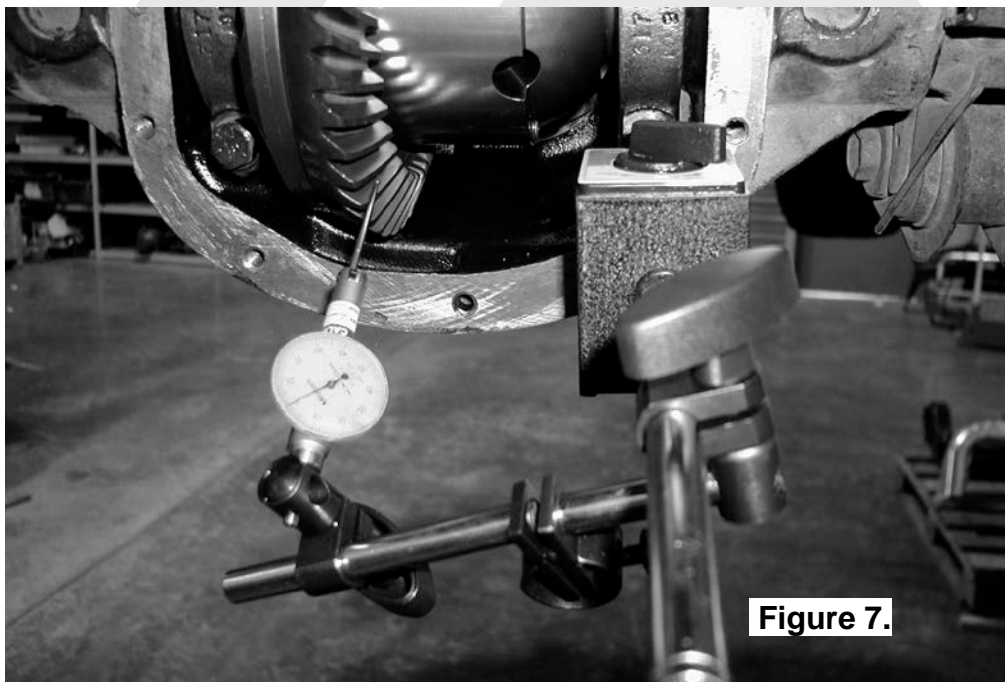

Figure 7.
- ☐ Set a depth indicator on one of the ring gear teeth (Fig.7.).